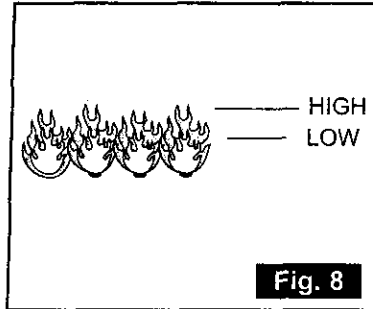

Fig. 8
- Visually check the flames every time you light your grill (Figure 8). If the flame is abnormally small or smoky yellow -- shut off the grill and check the venturi tubes for blockage (see Figure 11 on pg. 30) or refer to the Troubleshooting Guide.